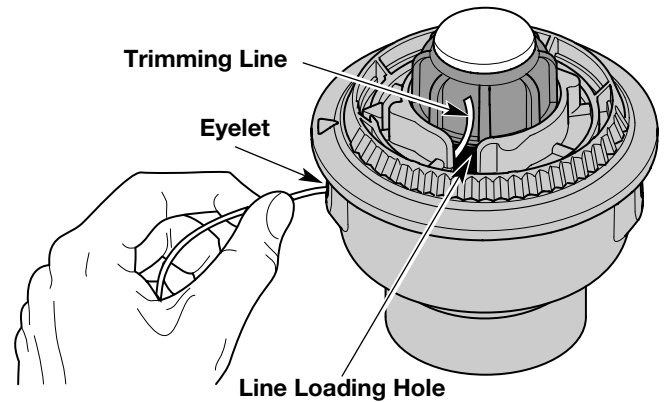

Fig. 15
3. Pull old line out of the line loading and line locking holes (Fig. 15 and 16).
4. Insert a piece of trimming line into one of the two eyelets in the outer spool. Push it up through the line loading hole in the inner reel (Fig. 15). Do not bend the line when inserting it into the eyelet.